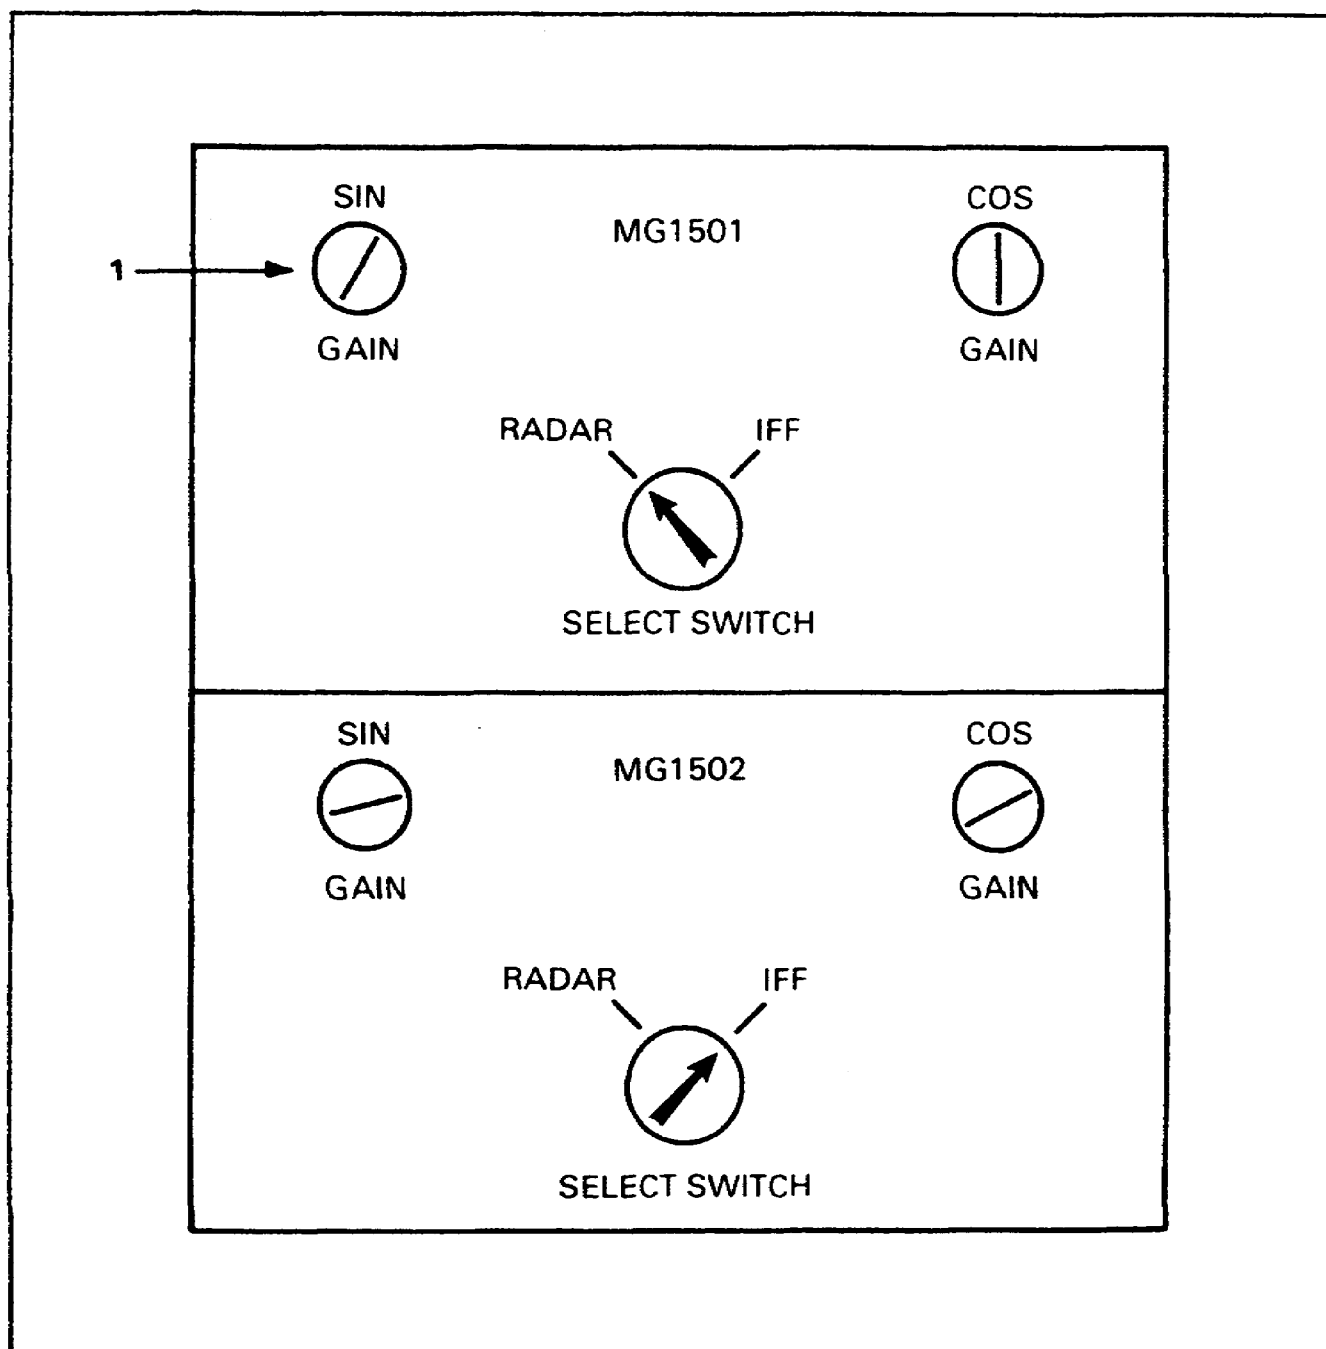

Figure 17. Sine gain control.
j. Have assistant rotate azimuth antenna by hand until a maximum voltage is indicated on the multimeter. Adjust the sine gain control on the radar sine-cosine converter MG-1501 for ± 36 V DC. (See Figure 17.) Record reading _____.